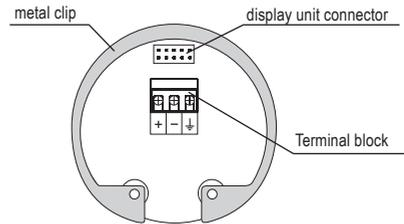

Fig. 23: Inside view of screw terminals of the level meter with current output GRLM-70_--_I
5. Connect the cable to the screw terminals according to the diagram in Fig. 23 or 25. Firmly tighten the terminals and the cable outlet. Tightening torque see. Technical parameters p. 36.
6. If the level meter with Modbus is involved as a terminal for RS-485, we recommend (to avoid reflections on the line) to connect 120Ω termination resistor. This is done by moving a small lever of the switch marked 120Ω to the ON position. On the level meters connected to the line RS-485 as an intermediate device, the termination resistors are not connected (switch remains off) in Fig 23.
In the event of strong ambient electromagnetic interference, paralleling of conductors with power distribution, or for distribution to distances over 30 m, we recommend grounding the level meter (see above) and using a shielded cable. Ground the shielding of the cable on the side of the power supply, or the shielding is possible to connect only on inside pin of the level meter marked \oplus see fig. 23 and 25 (the shielding of the cable is always connected in a single location).